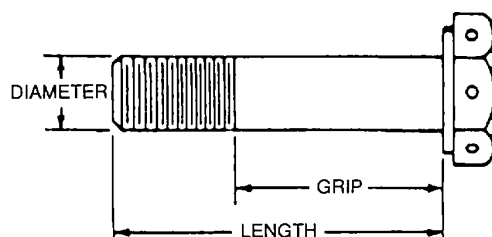

Figure 2-3. Drilled Head Bolt
f. Drilled Head Bolts. Drilled head bolts, as shown in figure 2-3, differ from the standard hexagon head bolts. The drilled head bolt has a deeper head, which is drilled for securing with lockwire. Each face of the bolt head is drilled. Use discrimination when substituting drilled head bolts for hexagon head bolts. When drilled head bolts are used as